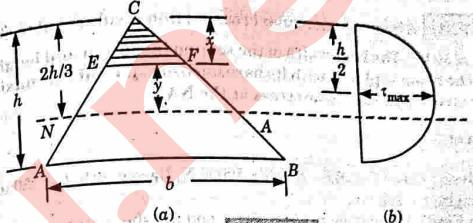

Fig. 3.32.1.
i. Consider a section at a distance y in the web from the NA as shown in Fig. 3.32.1(a)